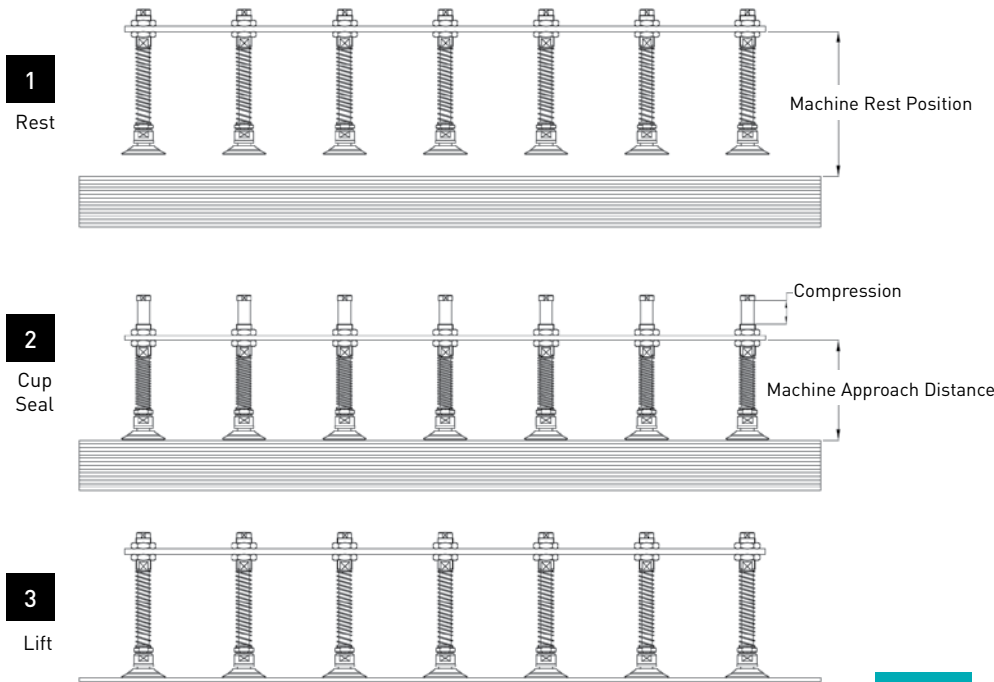

FIG. 4
*Fig. 4* demonstrates the approximate approach feature. In the machine REST position, all level compensators are at the same height and under spring tension. As the lift frame of the machine approaches, the cups make contact with the load to be lifted (CUP